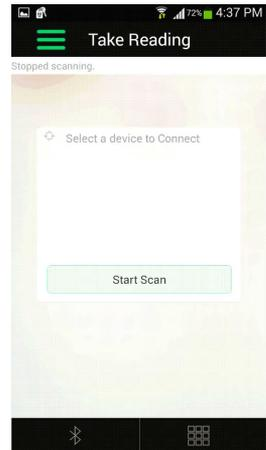

Figure 3. Scan for Devices button
7. Tap the **Start Scan** button to search for a Bluetooth device (Fig. 3). The options will be *FieldScout Bluetooth* for a TDR 300, or *TruFirm Bluetooth* for the TruFirm.